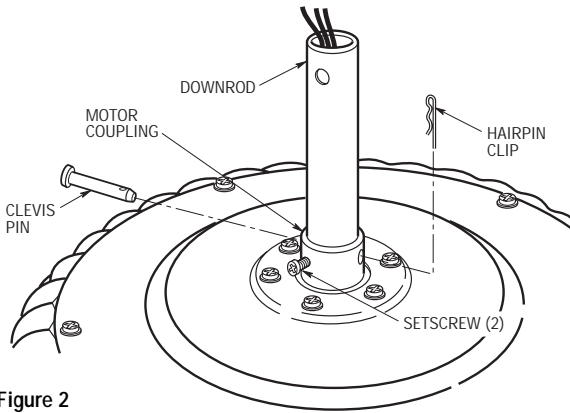

Figure 2
2. Unscrew the two setscrews (Figure 2) until they clear the inside of the motor coupling. Then separate, untwist and unkink the three 80" motor leads. Route the motor lead wires through the downrod. Align the clevis pin holes in the downrod with the holes in the motor coupling. Install the clevis pin and secure with the hairpin clip (Figure 2). The clevis pin must go through the holes in the motor coupling and the holes in the downrod. Be sure to push the straight leg of the hairpin clip through the hole near the end of the clevis pin until the curved portion of the hairpin clip snaps around the clevis pin. The hairpin clip must be properly installed to prevent the clevis pin from working loose. Pull on the downrod to make sure the clevis pin is properly installed.
It is critical that the clevis pin in the motor coupling is properly installed and the setscrews securely tightened. Failure to verify that the pin and setscrews are properly installed (as shown in Figure 2) could result in the fan falling.
- 3. Tighten the two setscrews (Figure 2) securely while pulling up on the downrod.